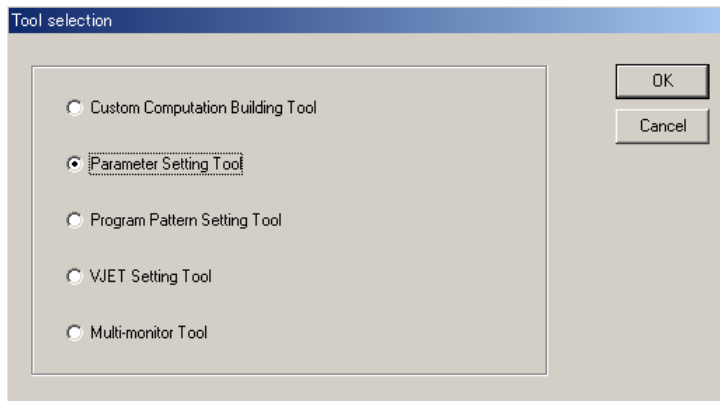

Figure 9.1.1 Tool Selection Dialog Box
- (1) Start Windows.
- (2) From the **Start** menu of Windows, point to **Program**, then **Green Series**, and click **Green Series LL100**.
- (3) The LL100 tool starts up, and the Tool Selection dialog box appears (Figure 9.1.1). (For LL200, "Custom Computation Building tool" appears at the top of dialog box.)